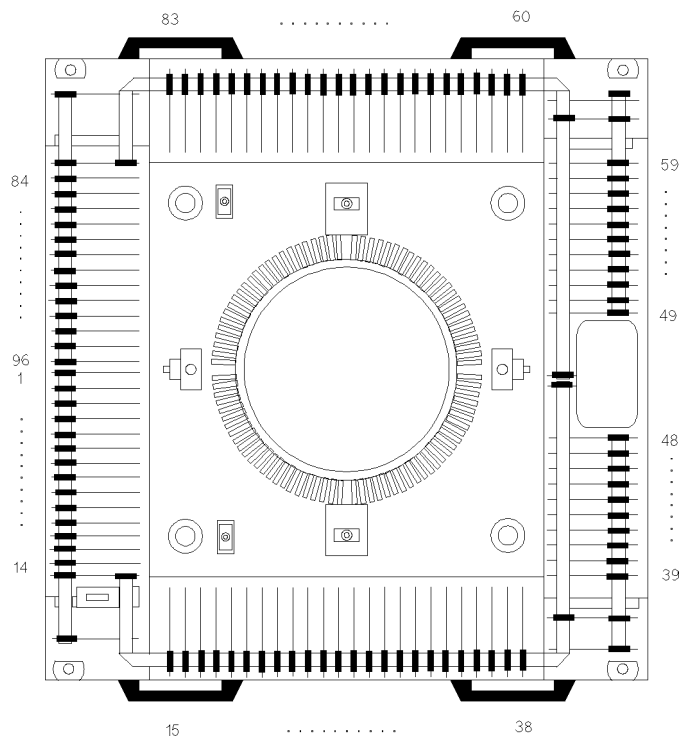

Figure 4-23. SWM Pin Board Locations
2. Remove the indicated pin board. Refer to “Accessing Pin Boards” in Chapter 3 for information on accessing pin boards. Figure 4-23 shows SWM pin board locations.